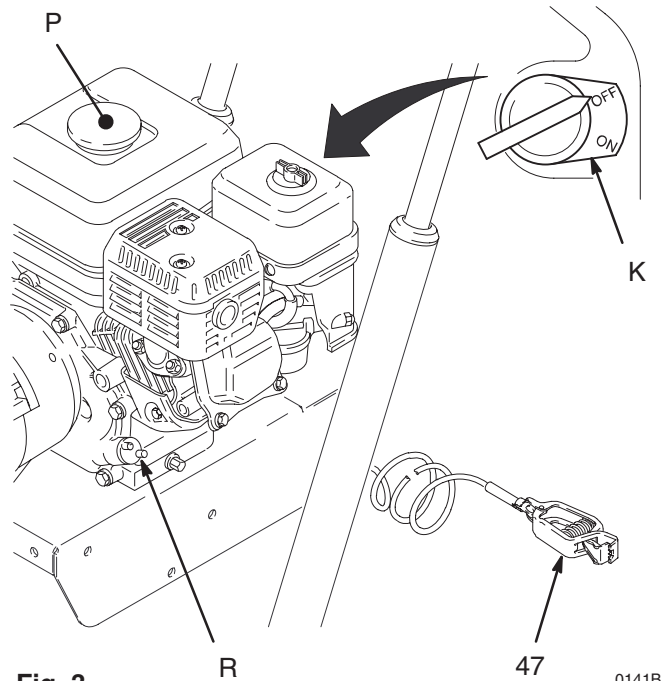

Fig. 3
4. **Check the engine oil level.** Refer to the Honda engine manual, supplied. This is a summary of the information: Remove one of the oil fill plugs (R); the oil should be almost overflowing. See Fig. 3. Add oil as necessary.
Do not overfill the tank. Make sure the gas fill cap (Fig. 3, P) is securely closed after refueling.